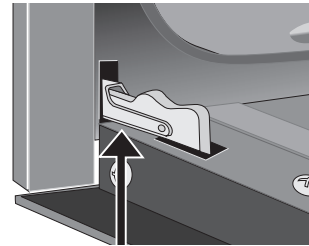

Figure 43: Door hinge locks
2. Pull the door hinge locks on both left and right door hinges up from the oven frame completely towards the oven door (See Figure 43). A tool such as a small flat-blade screwdriver may be required to unlock the hinge (Figure 44).
4. Push the door hinge locks up towards and into the oven frame on both left and right oven door hinges to the locked position (See Figure 43).